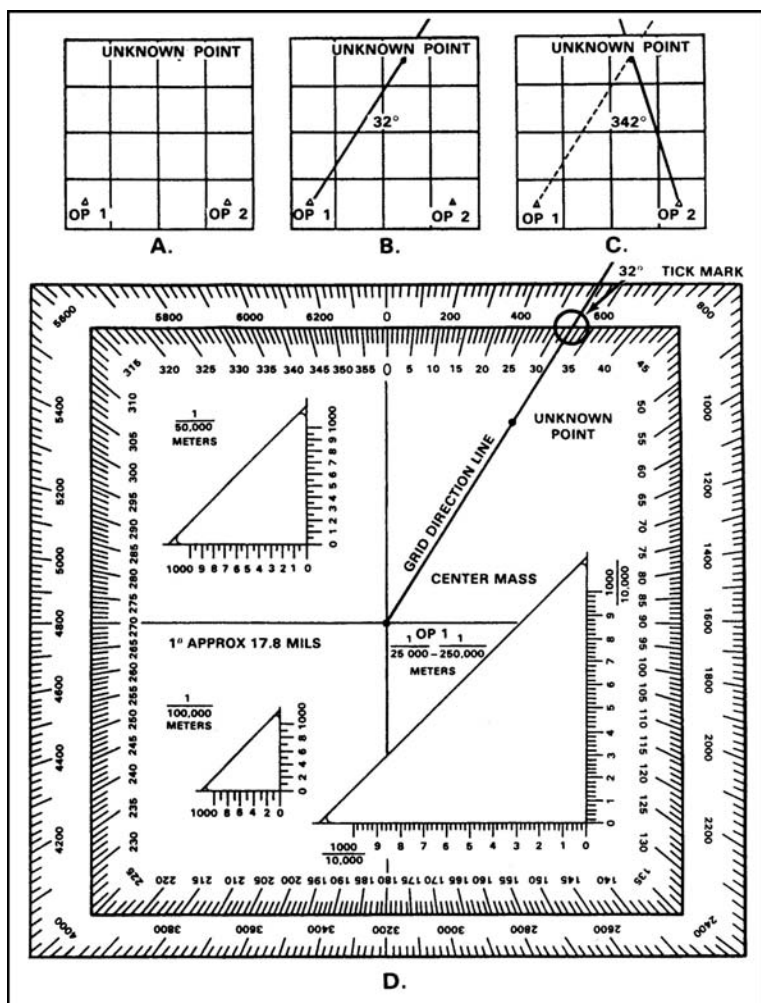

Figure 071-329-1014-1. Location of an unknown point
1. Use the map and compass method (figure 071-329-1014-1).